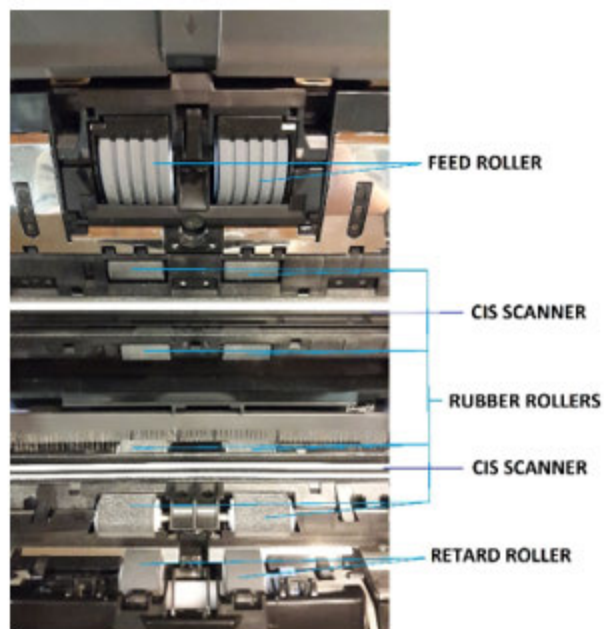

Figure B-1: DR-M260 Scanner
1. Open the scanner to access the necessary parts. See Figure B-1.